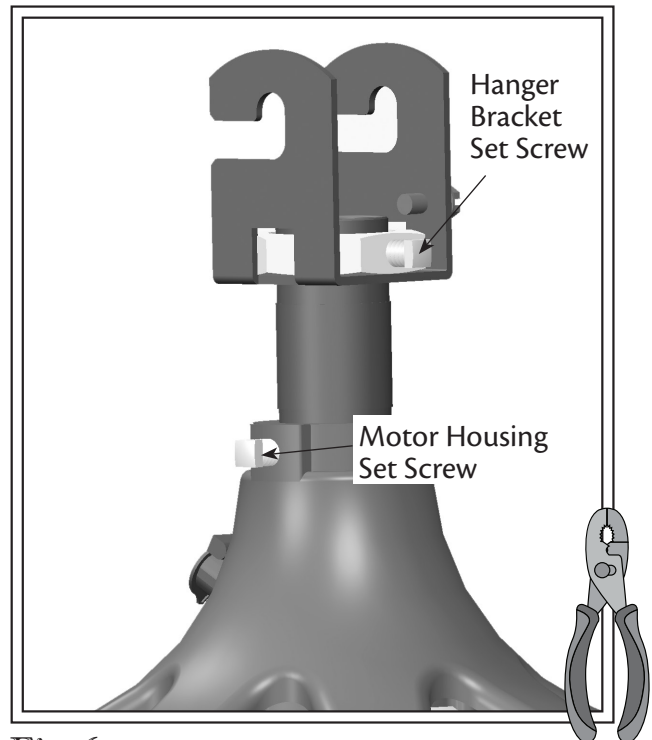

Fig. 6
8. Tighten the set screw in the motor housing and the hanger bracket assembly (see Fig. 6).